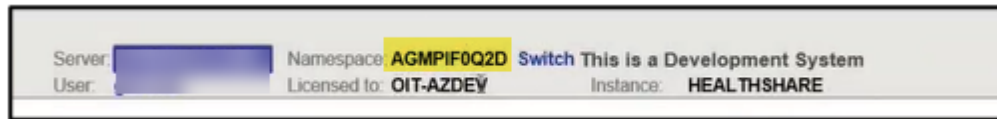

Figure 3-4: AGMPI Production selected
3. The **Namespace** at the top of the Management Portal should now contain the AGMPI production (Figure 3-4).